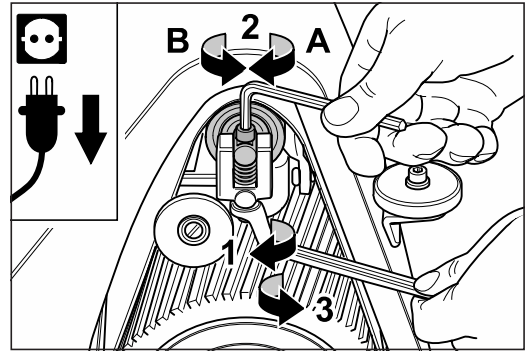

Fig. 48 Adjust the sanding belt tracking at the setting screw of the drive unit (see description in the main text).
- 6 If readjustment of the tensioning roller is necessary, release the lock nut at the drive unit (fig. 48, 1) and adjust the tensioning roller with the screw (fig. 48, 2):
- 7 If the sanding belt tracking is seen to be correct after adjusting once, **tighten the lock nut again** (fig. 48, 3).